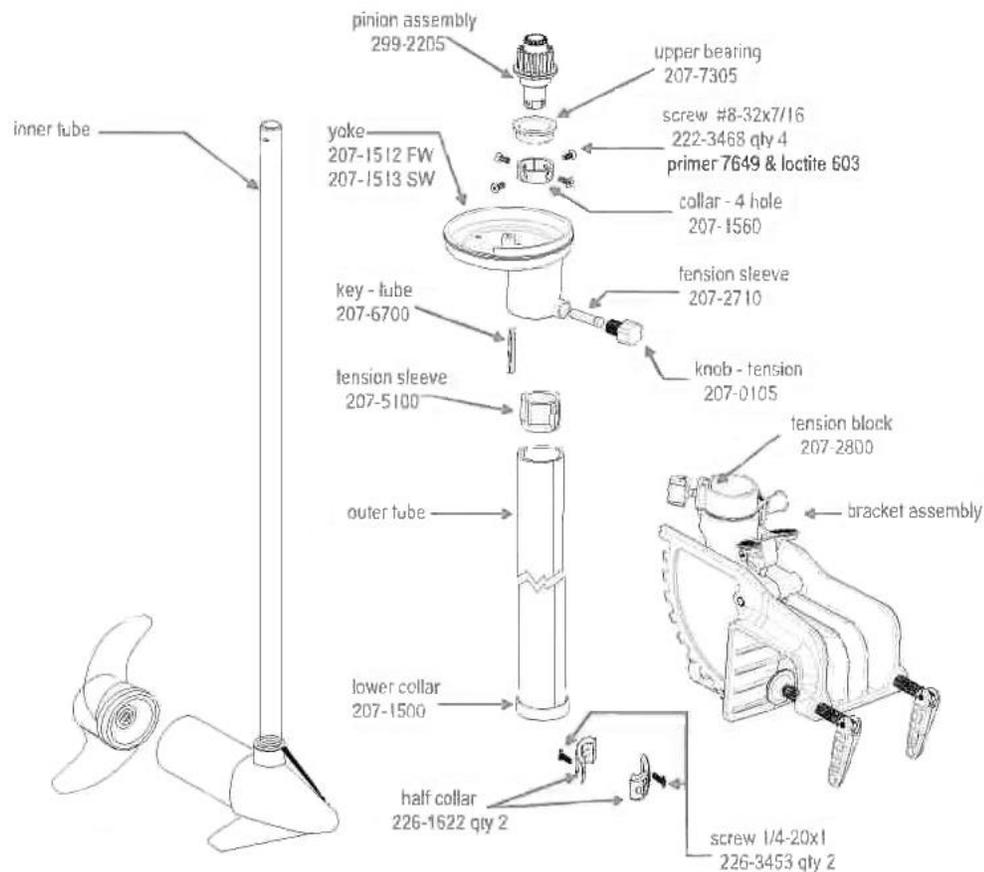

Fig. 5
- Step 9.** Remove the collar halves (P/N 2261622) clamped around the motor inner tube (1-1/8" diameter tube). The collar halves are located just below the lower collar (P/N 2071500) on the outer tube of either the transom mount or bowmount 3X motor. (A 3/16" allen wrench / driver is required.) (see Fig. 5, page 6)
- Step 10.** With the collar halves removed, the motor lower unit and inner tube assembly can be pushed / lifted up to expose the 4-hole collar (P/N 2071560) and four #8-32 x 7/16" Phillips flathead countersunk screws (P/N 2223468) that hold the pinion gear assembly into the inner tube. (see Fig. 5, page 6)
- A. Remove the four screws (P/N 2223468) to allow removal of the pinion assembly (P/N 2992205), upper bearing (P/N 2077305) and 4-hole collar. (see Fig. 5, page 6)
- Step 1.** With the outer tube and pivot yoke properly positioned and slid into the transom bracket hinge or BowGuard 360° assembly (reference Disassembly Procedure **Step 12**), slide the motor lower unit, inner tube assembly, and lower collar (P/N 2071500) back into place in the outer tube with the upper end of the inner tube extending out the top of the pivot yoke. (see **Fig. 5 on page 6**)
- A.** Use care to line up the rib in the pivot yoke with the ends of the split gear carrier. (see **Fig. 5, page 6**)